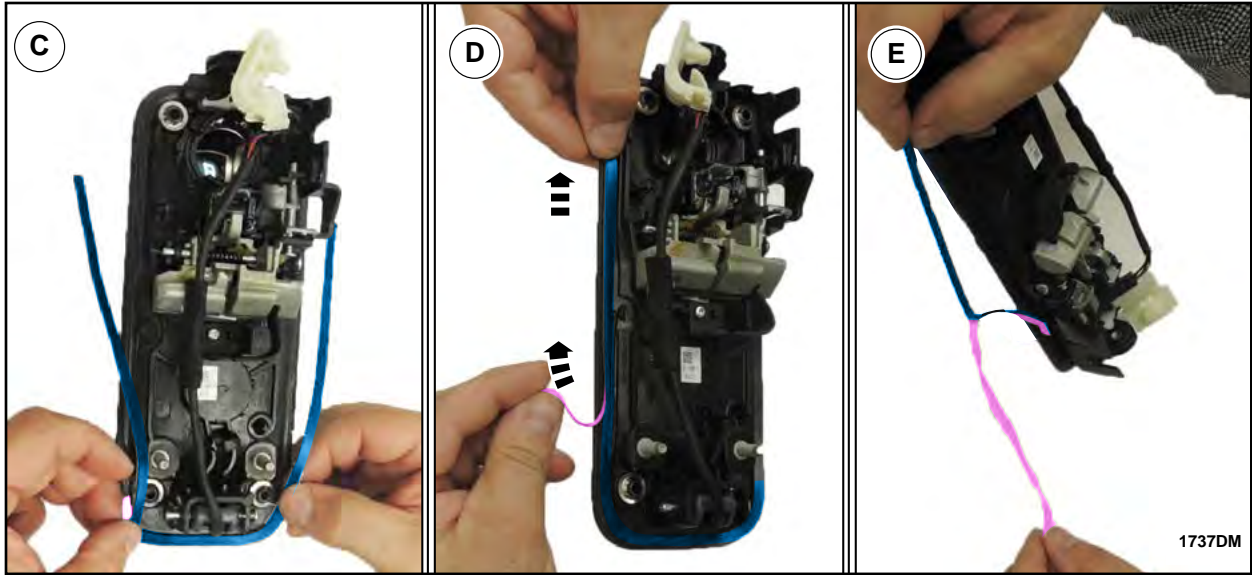

FIGURE 92
- C. Align the marks made on the Foam K and exterior door handle and adhere the back center portion to the exterior door handle as shown in Figure 92.
- D. Lay one side of Foam K down on the exterior door handle and without stretching the foam pull off the adhesive backing as you adhere Foam K to the exterior door handle as shown in Figure 92.
- E. Remove the protective backing from the other side leg of Foam K as shown in Figure 92.